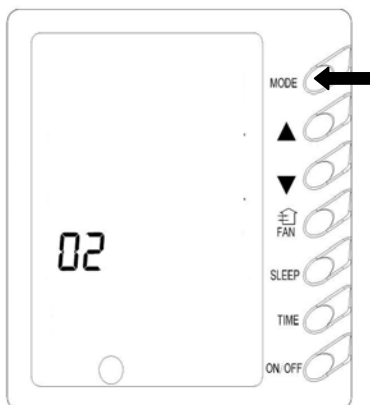

Fig. 7-11
7.2.10 Setting of De-energization Memory Function (Fig. 7-11)